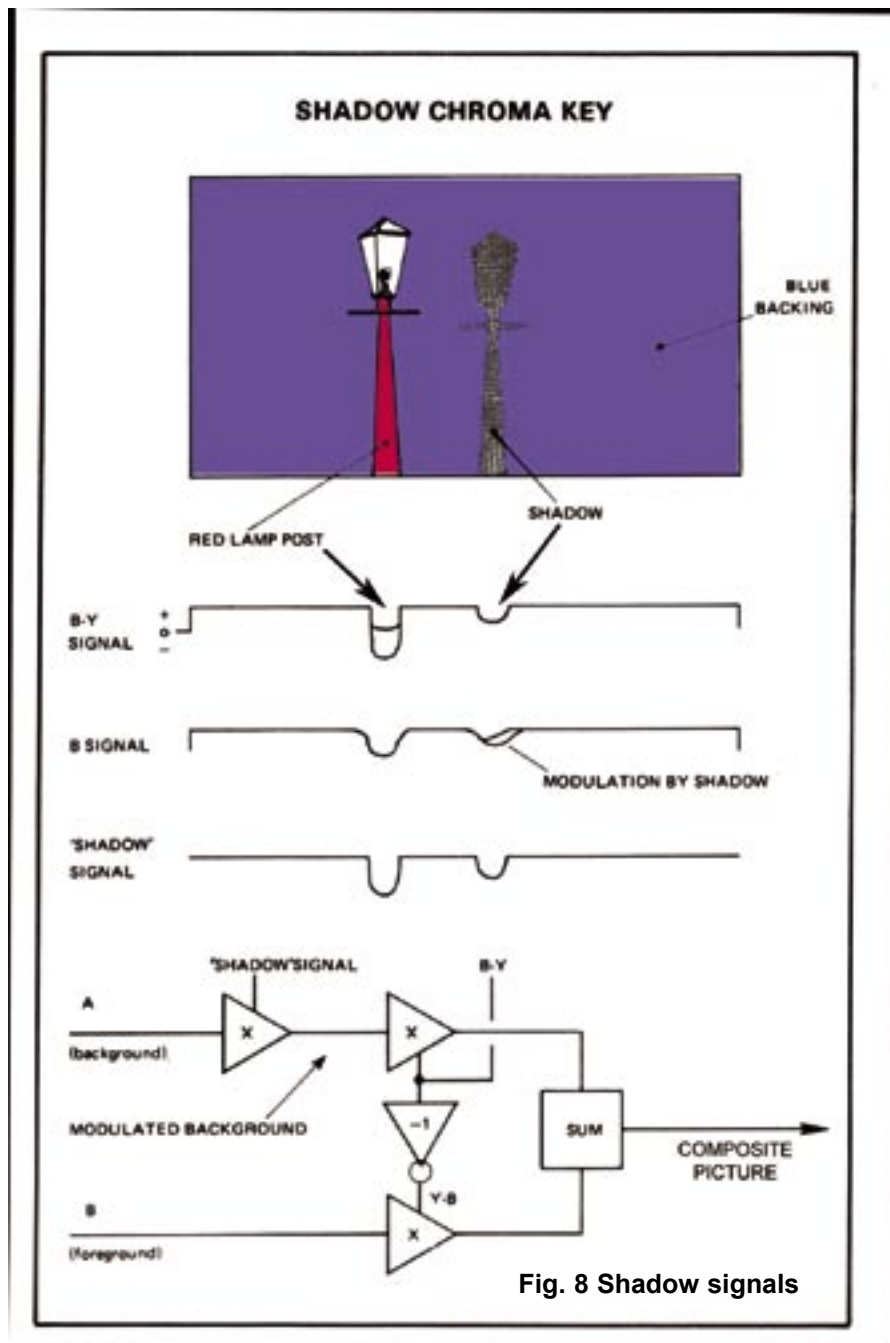

Fig. 8 Shadow signals
Note that no one colour dominates, unlike the original luminance equation (1) so that any appropriate background colour can be used. With processing, this signal is used to modulate the new background video, and adds shadows back to the scene. [Fig. 8]